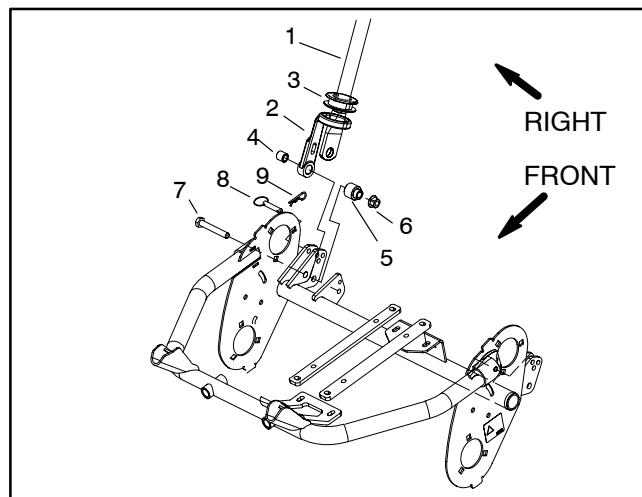

Figure 4
4. Loosen and remove flange nut from cap screw on each end of the handle (Fig. 4).